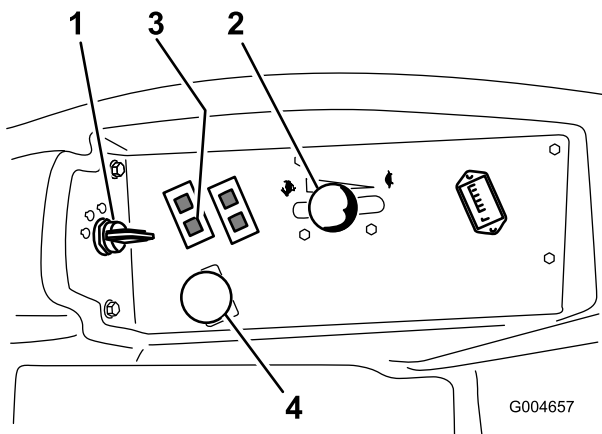

Figure 14
4. Move the PTO (power take off) switch to the off position (Figure 14).
5. Move the throttle lever midway between the Fast and Slow positions (Figure 14).